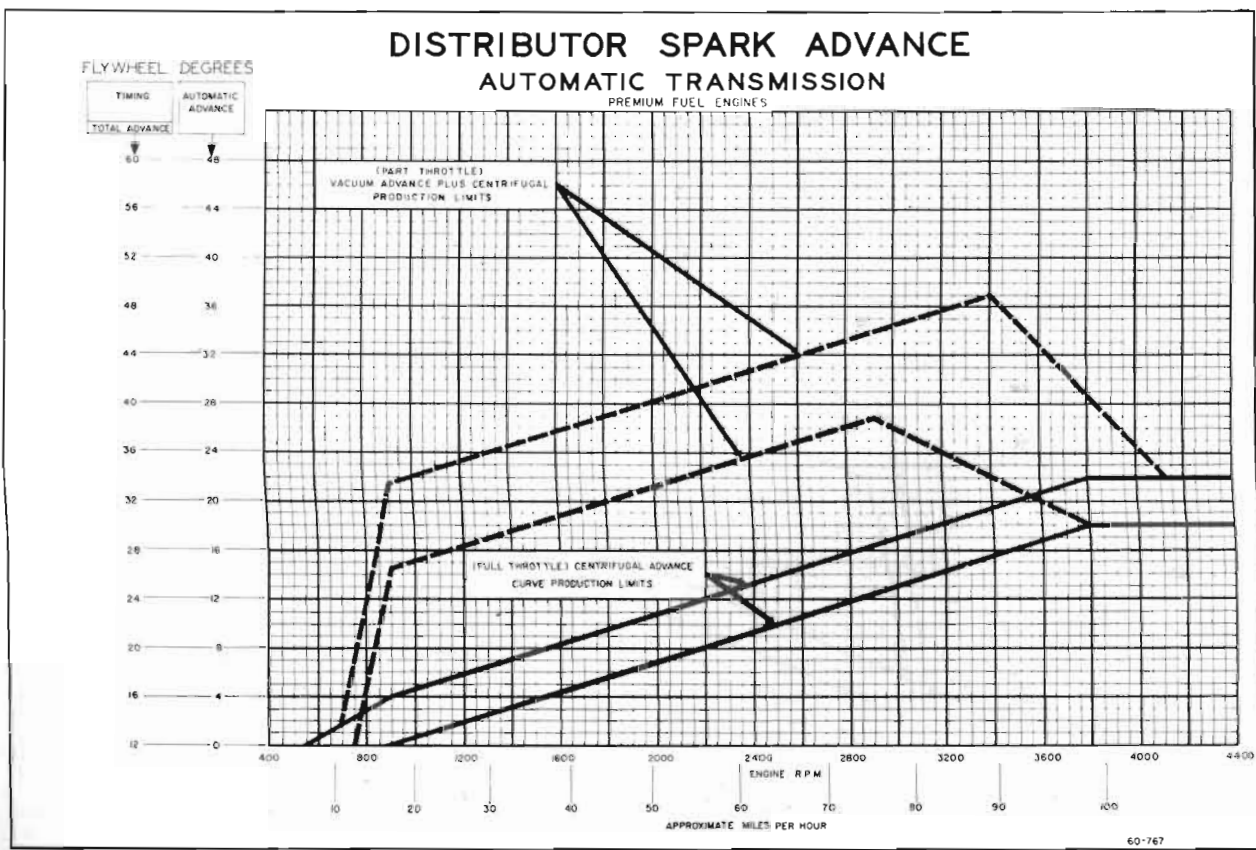

Figure 10-39—Distributor Spark Advance Chart—Automatic Transmission Premium Gas Engine
1. Remove distributor cap by inserting a screwdriver in upper slotted end of cap retainers, press down and turn 90° in either direction. See figure 10-39. Push distributor cap aside and remove rotor. Disconnect the condenser and primary leads from their terminal by loosening the retaining screw. Remove condenser screw, lockwasher, condenser and bracket.